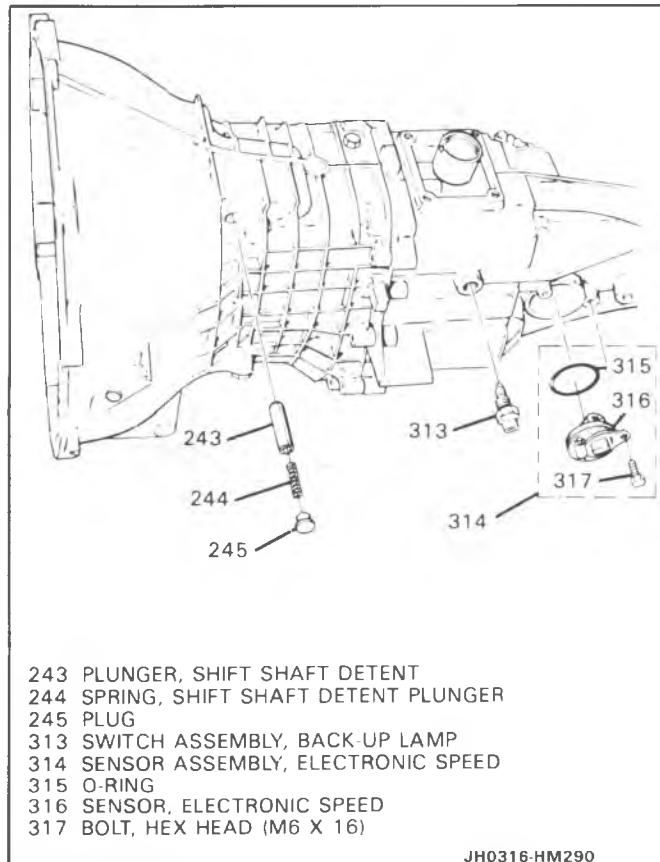

Figure 90 External Components Install
43. Shift shaft detent plunger (243), shift shaft detent spring (244) and plug (245) using brass drift (Figure 90).
44. NEW o-ring (315) onto electronic speedo sensor assembly (316).
45. Electronic speed sensor assembly (316) and bolt (317).